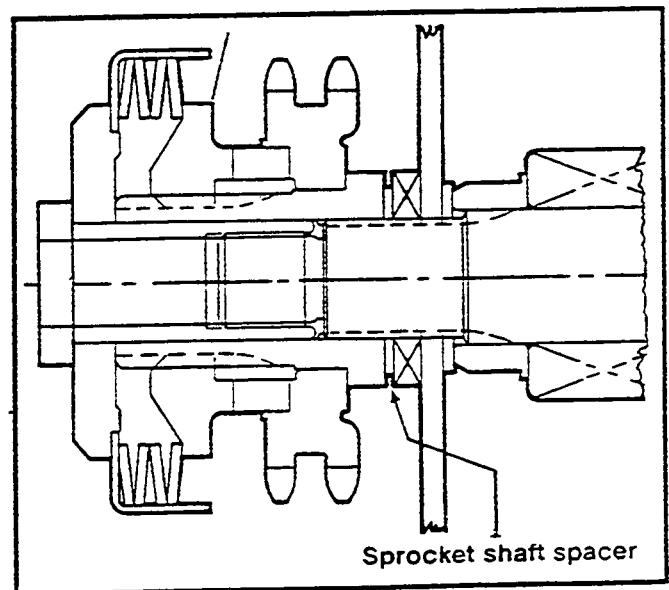
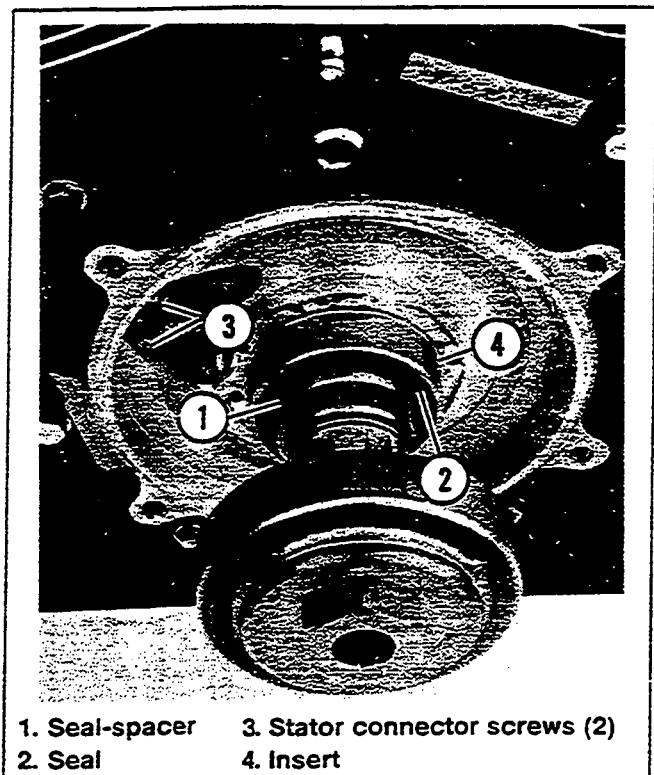

Figure 1. Location Of The Factory Installed Spacer
Figure 4. Area To Checked For Leaks
- 3. Remove the alternator rotor and stator. **Install stator connector screws (item 3, Figure 4). The stator connector screw holes are "through holes" and would allow pressure to escape during testing.** See Figure 1. Mark or measure and record the factory installed sprocket spacer(s) thickness. The spacer(s) must be installed in their original location to align the primary chain sprockets after the testing is completed.
11. See Figure 4. With the propane torch, heat the stator mounting surface for three minutes. (This will simulate engine operating temperature.)
Test Locations (See Figure 4)	Remedy
<p>1. Seal-spacer (1). Check for leaks at inside diameter (ID) and outside (OD) of seal-spacer.</p>	<p>1.1 If seal-spacer (1) leaks at its ID, remove seal (2) and seal-spacer and check condition of spacer at bearing end. If grooved, install new seal-spacer and new seal. Coat OD of new seal with a very thin application of 3M® 800 and install.</p> <p style="text-align: center;">CAUTION</p> <p>Do not apply 3M® 800 sealant to crankcase or use an excessive amount of 3M® 800 sealant on O.D. of seal. Sealant could be forced into bearing and cause bearing failure. Recheck for leaks.</p> <p>1.2 If leak is at OD of seal-spacer, remove seal (2), Figure 4 and check finish of spacer where lip of seal makes contact. Replace spacer if OD is rough or grooved at seal mating surface. Install new seal (2) after applying sealant as specified in 1.1 above.</p>